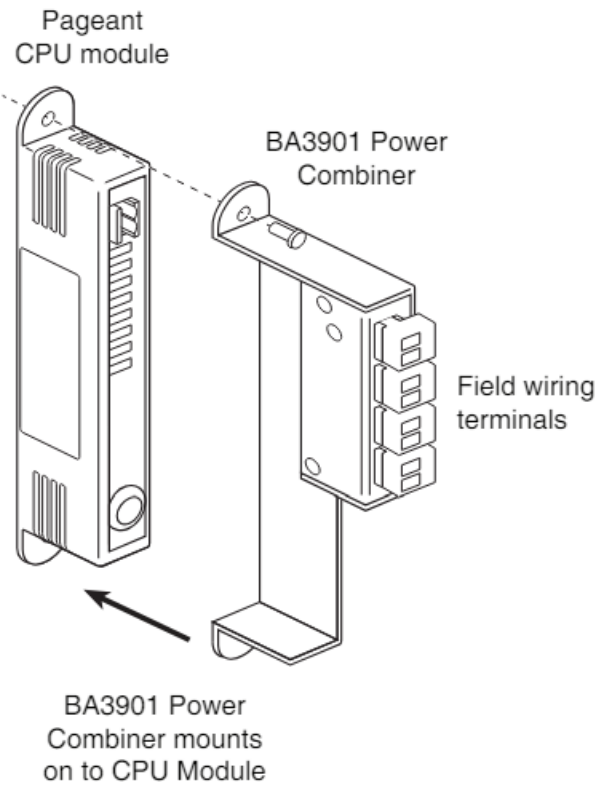

Fig 12 BA3901 Power Combiner mounts onto a CPU module
- The 4 way Power Combiner may be fitted to any certified Pageant BA3200 series CPU module as shown in Fig 12. It includes four pairs of removable screw connectors for terminating field wiring.